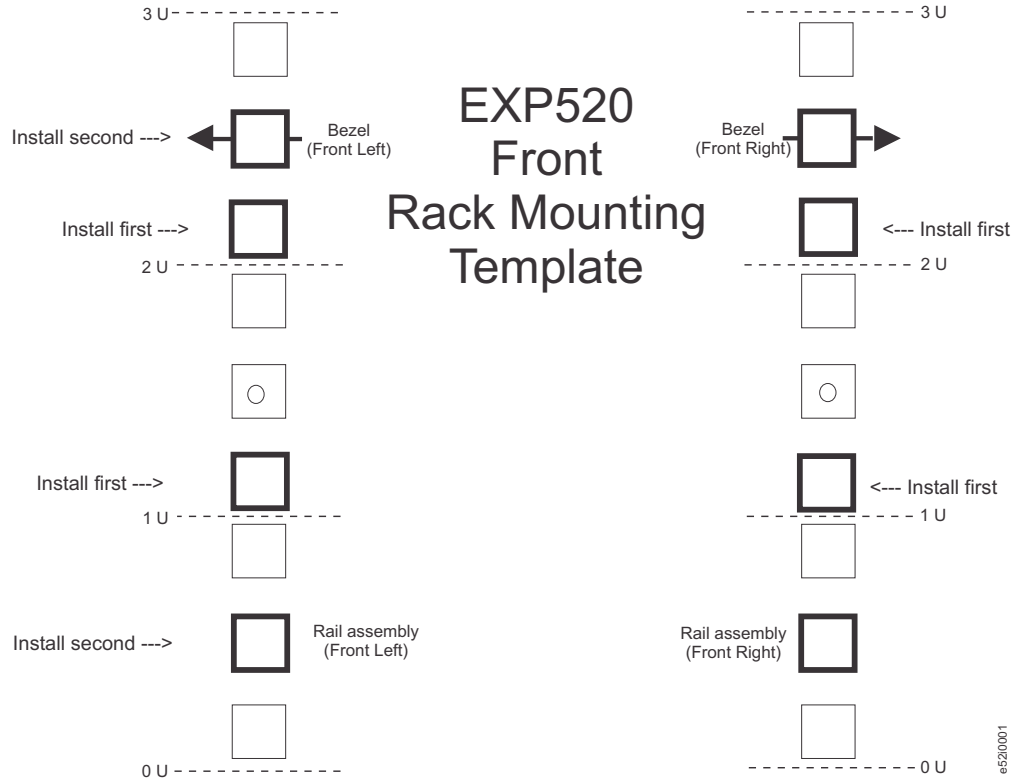
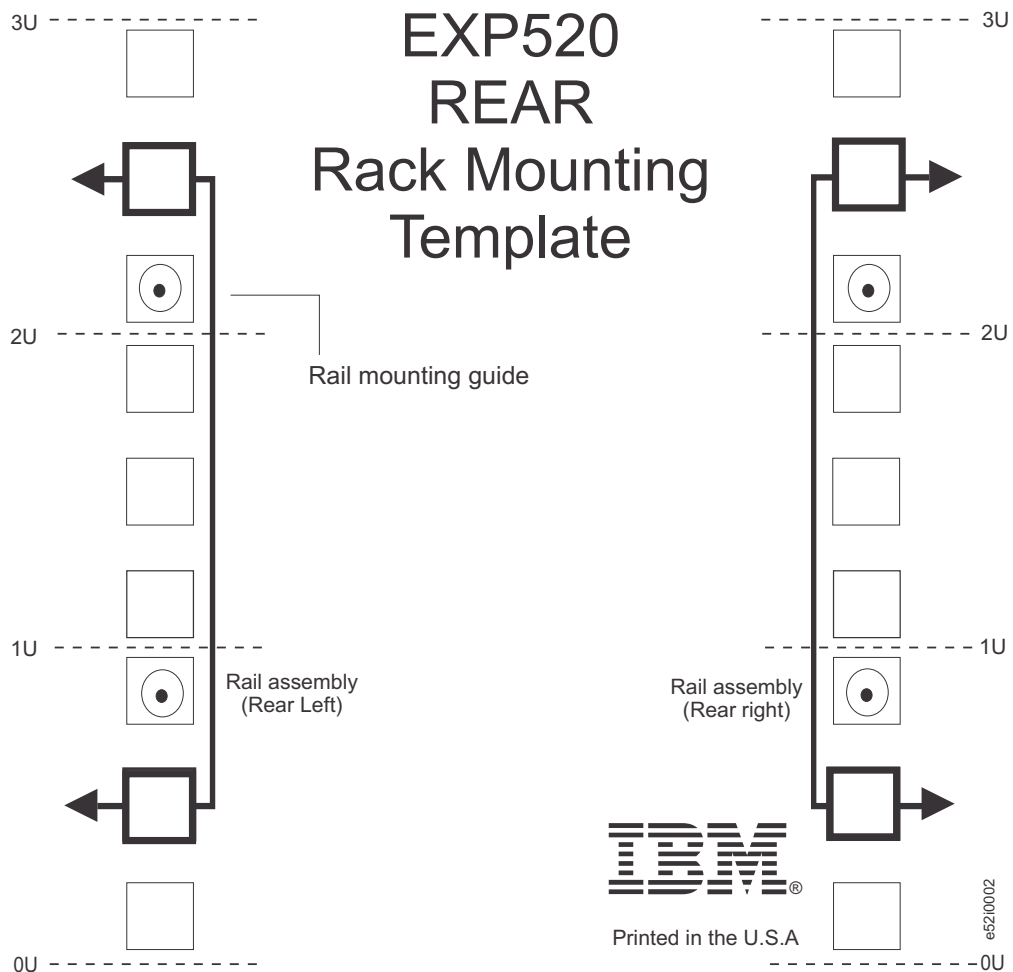

Figure 9. Front rack mounting template
Figure 10. Rear rack mounting template
Use the following templates (Figure 9 on page 25 and Figure 10 on page 26) to identify the proper locations for inserting M5 screws when mounting the support rails and EXP520 to a rack. The locations for the M5 screws are highlighted in the templates.
**Attention:** Use the rack mounting template provided in Figure 9 on page 25 and Figure 10 on page 26 to locate the proper rack mounting holes for installing the support rails into the rack.
6. Hold the back of the rail against the inside of the rack-mounting flange. Make sure the rail mounting guide pins are in the correct holes. See Figure 10 on page 26 for an illustration.
**Note:** Be sure to install the screws labeled *install first* in Figure 9 on page 25.